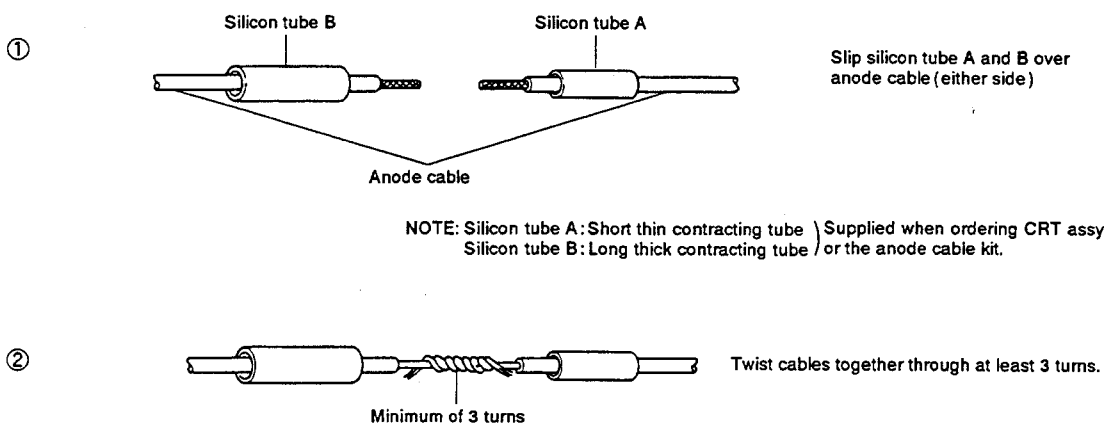

Fig. 9-4-1 Anode cable joining procedure (1)
- The silicon adhesive is applied to guard the cable core leads from external air. Apply binder liberally. After completing the joint (at step ⑩ in Fig. 9-4-1 thru 3), check that there is no hole in the silicon binder and the tube interior cannot be seen.